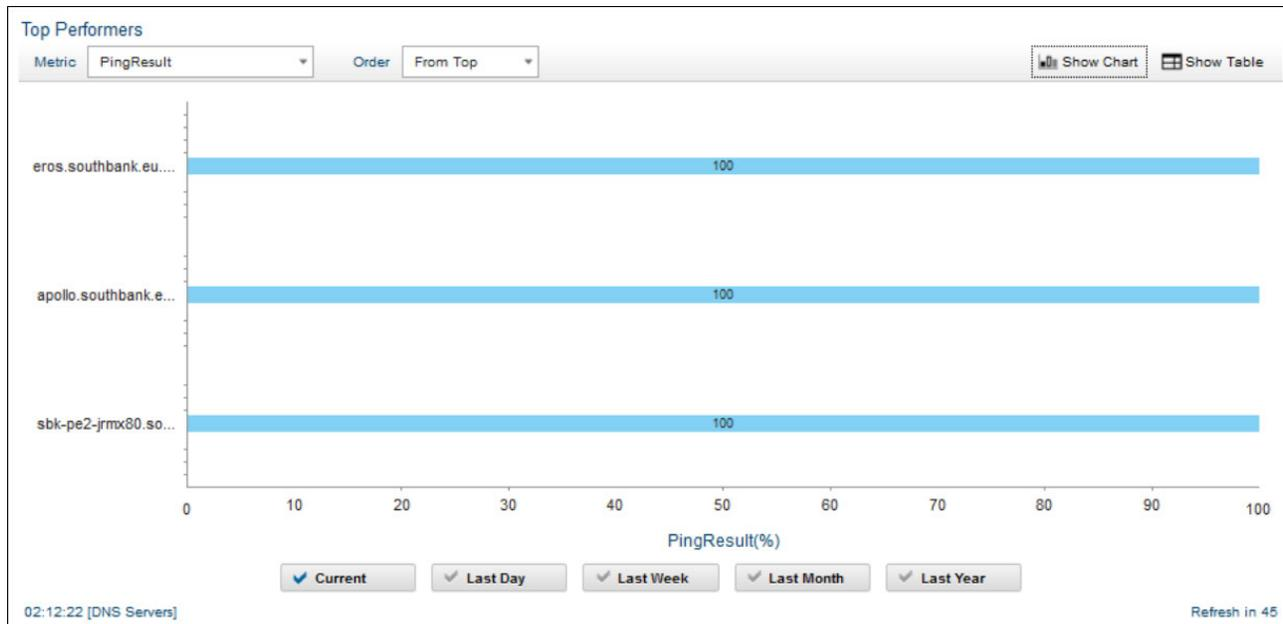

Figure 2-6 Example of a Top Performers widget view
3. In the Top Performers widget (Figure 2-6 on page 34), select from the following controls to display chart, table, or trace data in the Top Performers widget, and how to display it:
Displays a table of data that is associated with up to the 10 highest or lowest values. Figure 2-6 shows the Top Performers widget view.